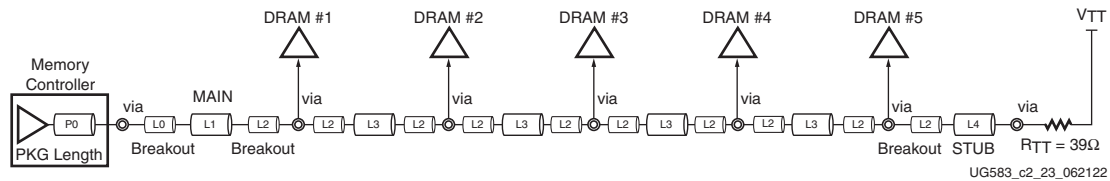

Figure 2-22: Address, Command, and Control Fly-by Termination for DDR4 SDRAM
Figure 2-22 illustrates fly-by topology for address, command, and control signals. Each clock, address, command, and control pin on each SDRAM is connected to a single trace and terminated at the far end.
DDR4 SDRAM clamshell topology utilizes two individual chip select (CS) signals, one for the top layer DRAMs, and one for the bottom layer DRAMs. Those signals should be routed as in the standard fly-by topology as defined in Figure 2-22 and Table 2-12.